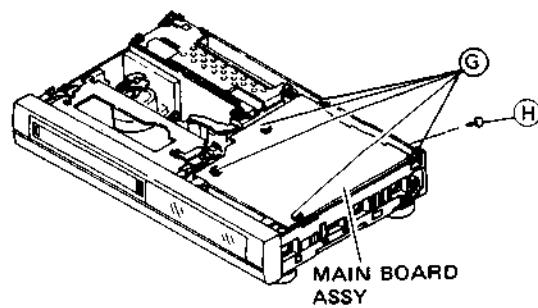

Fig. 1-1-4 Main board
2. Refer to Fig. 1-1-4 and take out 5 screws **(G)** and 1 screw **(H)** from main board assembly.